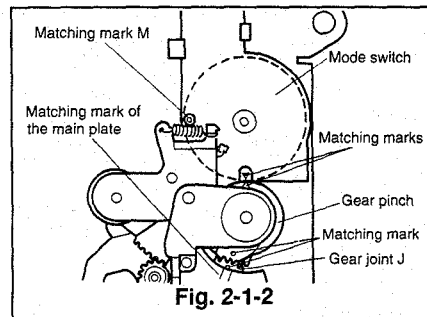

Fig. 2-1-2
- ① Make sure that the holes (matching mark M) on the body and cogwheel of the mode switch align with each other as shown in Fig. 2-1-2. At the same time confirm that the hole of the gear pinch aligns with the matching marks of the gear joint J and the ▽ mark on the mode switch cogwheel, refer to Fig. 2-19-5. This indicates the J deck is in the EJECT mode.